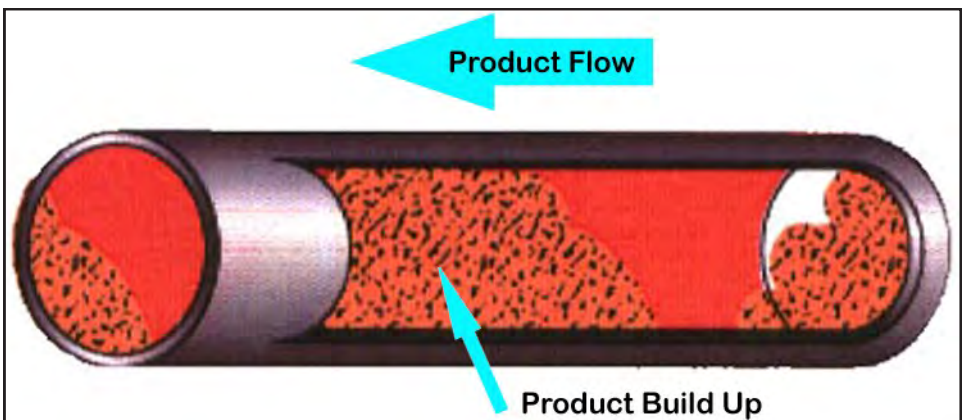

Figure 6. Product Flow and Build Up
1. Vertical positioning of discharge hose results in smoother product flow. Product tends to "settle" in portions of hose which runs horizontally (see Figure 6). This accumulation of product will restrict product flow, will increase unloading time, and may eventually clog the line. Ideally, the product will change to vertical immediately after leaving the trailer into the storage line with zero elbows. Since having no elbows in the line may not be practical, all bends or elbows should be sweep types having a large radii. The radius should be 15x the pipe diameter.